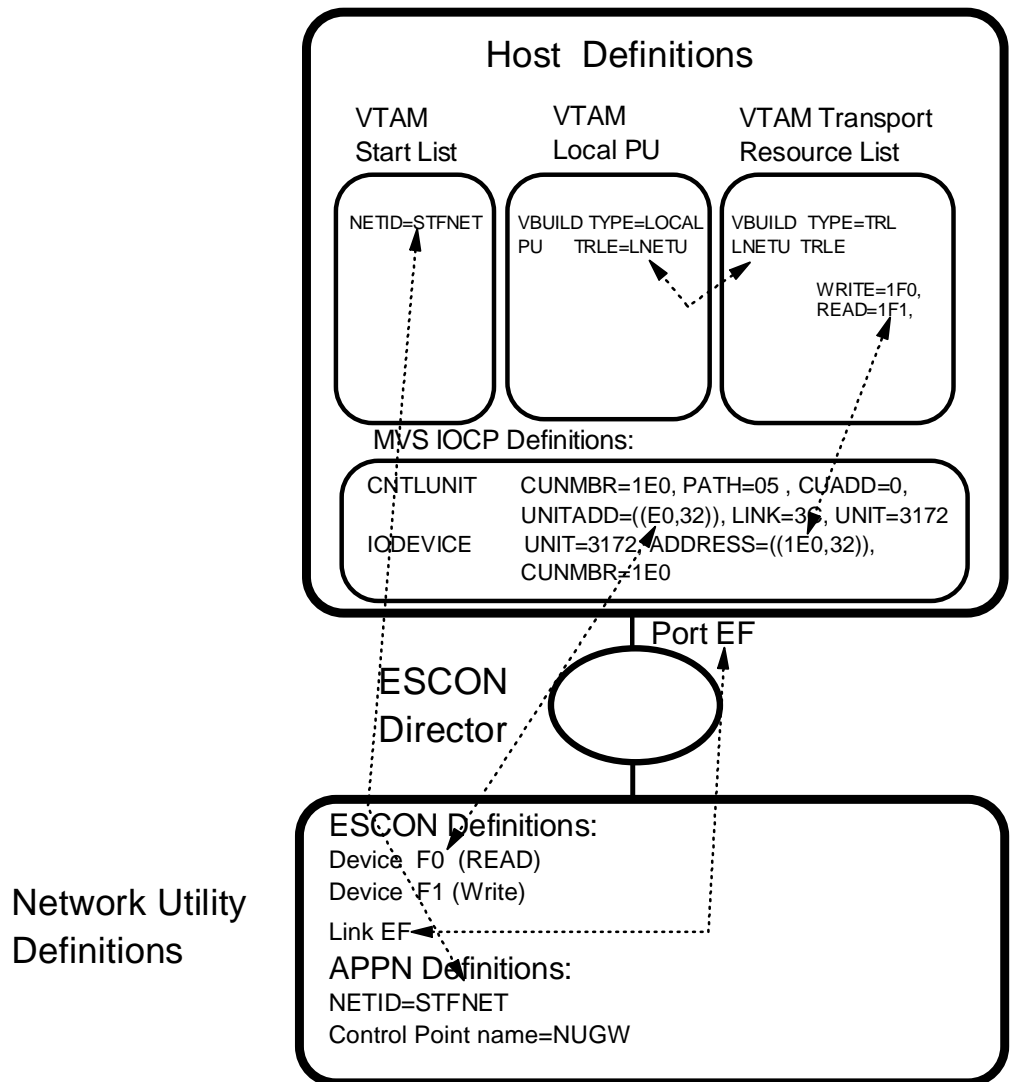

Figure 37. Host/Network Utility Parameter Relationships - MPC+
- Like the LSA and LCS definitions, the subchannel parameters must match parameters used in the host definitions when defining the Network Utility to the host channel subsystem. See Table 70 on page 209 for a description of the subchannel parameters and Figure 37 for a diagram of how these parameters correlate to the host parameters for an MPC+ definition.
1. The device addresses specified in the Network Utility MPC+ interface definition must be within the range specified in the UNITADD parameter in the CNTLUNIT macro from the IOCP. For example, the UNITADD parameter in Figure 37 on page 217 shows that 32 (decimal) device addresses starting at E0 (hex) are being reserved for the Network Utility definition. Device addresses F0 and F1 have been specified for the Network Utility MPC+ interface. Because F0 and F1 are in the range E0 to FF hex, this is OK as long as no other device (or interface on this Network Utility) tries to use these same subchannels.
2. The values specified in the VTAM TRL major node definition must be within the range specified in the ADDRESS parameter in the IODEVICE macro from the IOCP. For example, the TRL major node definition in Figure 37 on page 217 specifies 1F0 and 1F1, which are in the range 1E0 to 1FF that the ADDRESS parameter in the IODEVICE statement specifies.